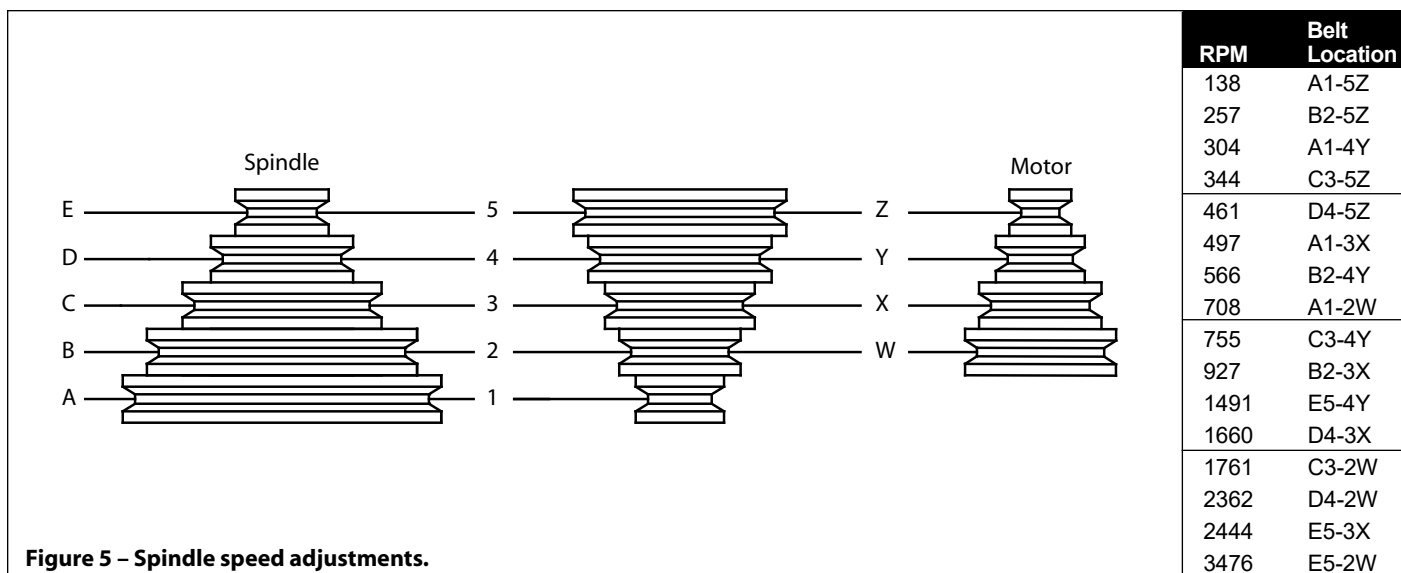

Figure 5 – Spindle speed adjustments.
Refer to Figure 5 and charts on page 6, and Figure 8.
- To change spindle speed, loosen motor lock handle (Ref. No. 187), pivot the motor toward front of drill press. This will loosen the belt and permit relocating the belt to the desired pulley groove for the required spindle speed (See Figure 5 and charts, page 6).